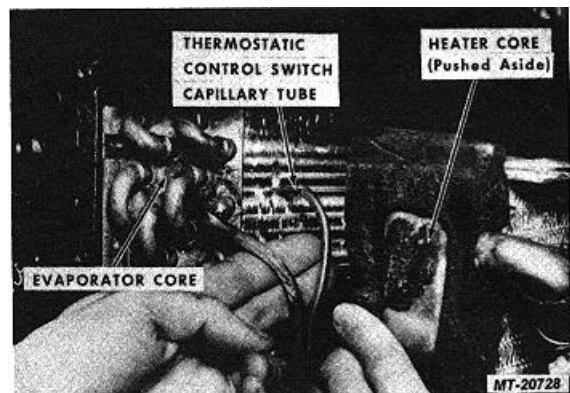

Fig. 57 Withdrawing Thermostatic Control Switch Capillary Tube from Evaporator Core
9. Withdraw thermostatic control switch capillary tube from evaporator core (Fig. 57).